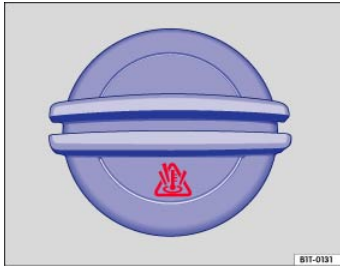

Fig. 191 Coolant expansion tank cap in the engine compartment.
- There is a  symbol on the cap of the engine coolant expansion tank ⇒ Fig. 191.